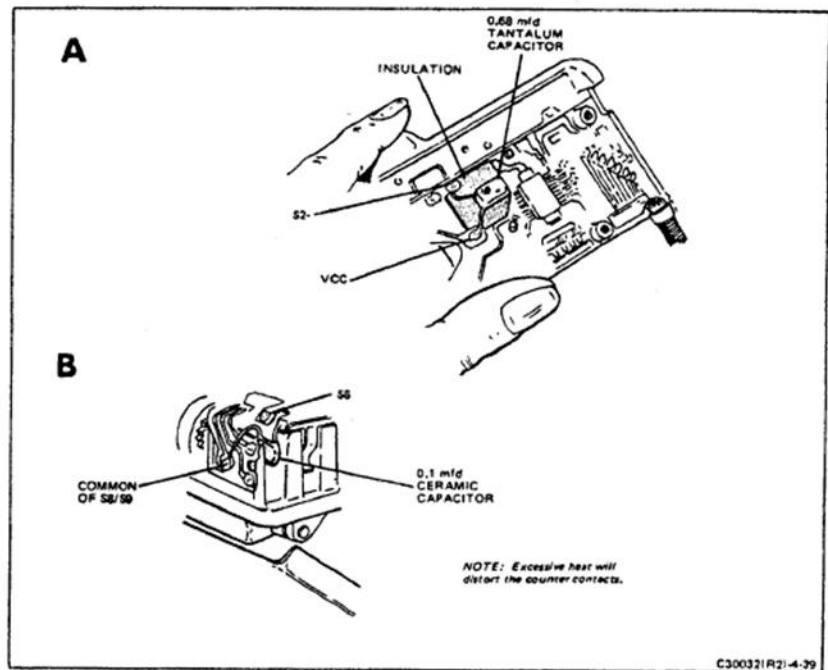

FIGURE 4-39 NOISE SUPPRESSION MODIFICATION
Some shutters have exhibited a mid-cycle shutdown which has been traced to motor noise. T.I. shutters without motor capacitors are most susceptible to this problem. The installation of a capacitor between the VCC terminal and ground on the shutter (Figure 4-39 "A") suppresses noise and reduces the problem. If after installing the capacitor the mid-cycle shutdown persists, install a second capacitor between S6 and the counter (Figure 4-39 "B"). Any suitable commercial tantalum 0.68 mfd capacitor may be used on the substrate and any suitable subminiature commercial ceramic 0.1 mfd may be used on the counter. These parts may be ordered from the Waltham Parts Department under the following numbers.
- To prevent shorting, place a small piece of insulating tape or .001 mylar on the substrate, in the area indicated by the black shading in Figure 4-39 "A".
- If the mid-cycle shutdown still persists, add a second ceramic capacitor between S6 and the common of S8/S9 on the counter (Figure 4-39 "B").